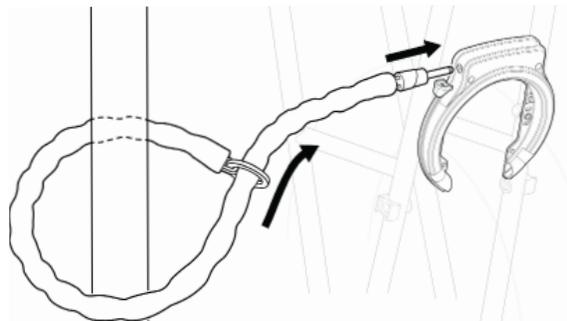
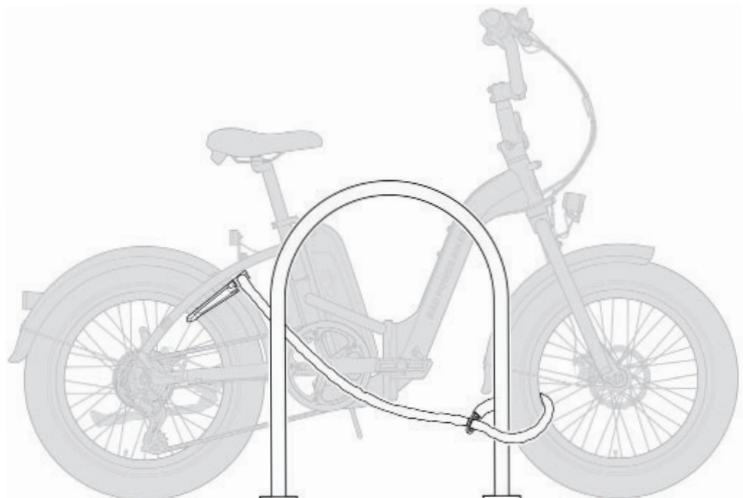

Figure 10: Short Security Chain
Figure 11: Long Security Chain
- Place the Rad Fat Tire Wheel Lock Security Chain (sold separately) around a stationary bike rack or a tall, secure pole. Insert the lock pin end of the chain through the ring (Figure 10). When using the long security chain, enclose the front wheel and attach the chain around a secure object, as illustrated (Figure 11).
- Insert the lock pin of the chain into the port on the lock until it clicks into place (Figure 10).